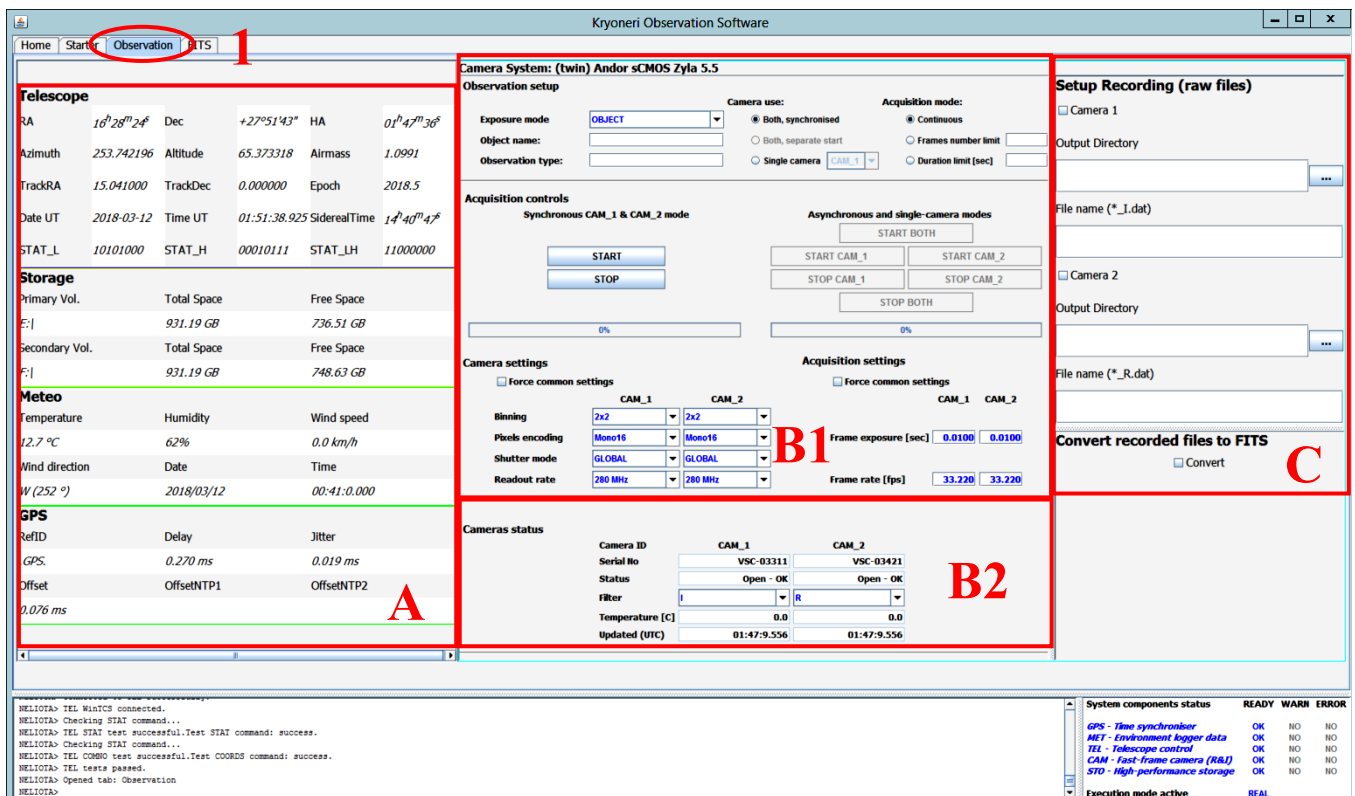
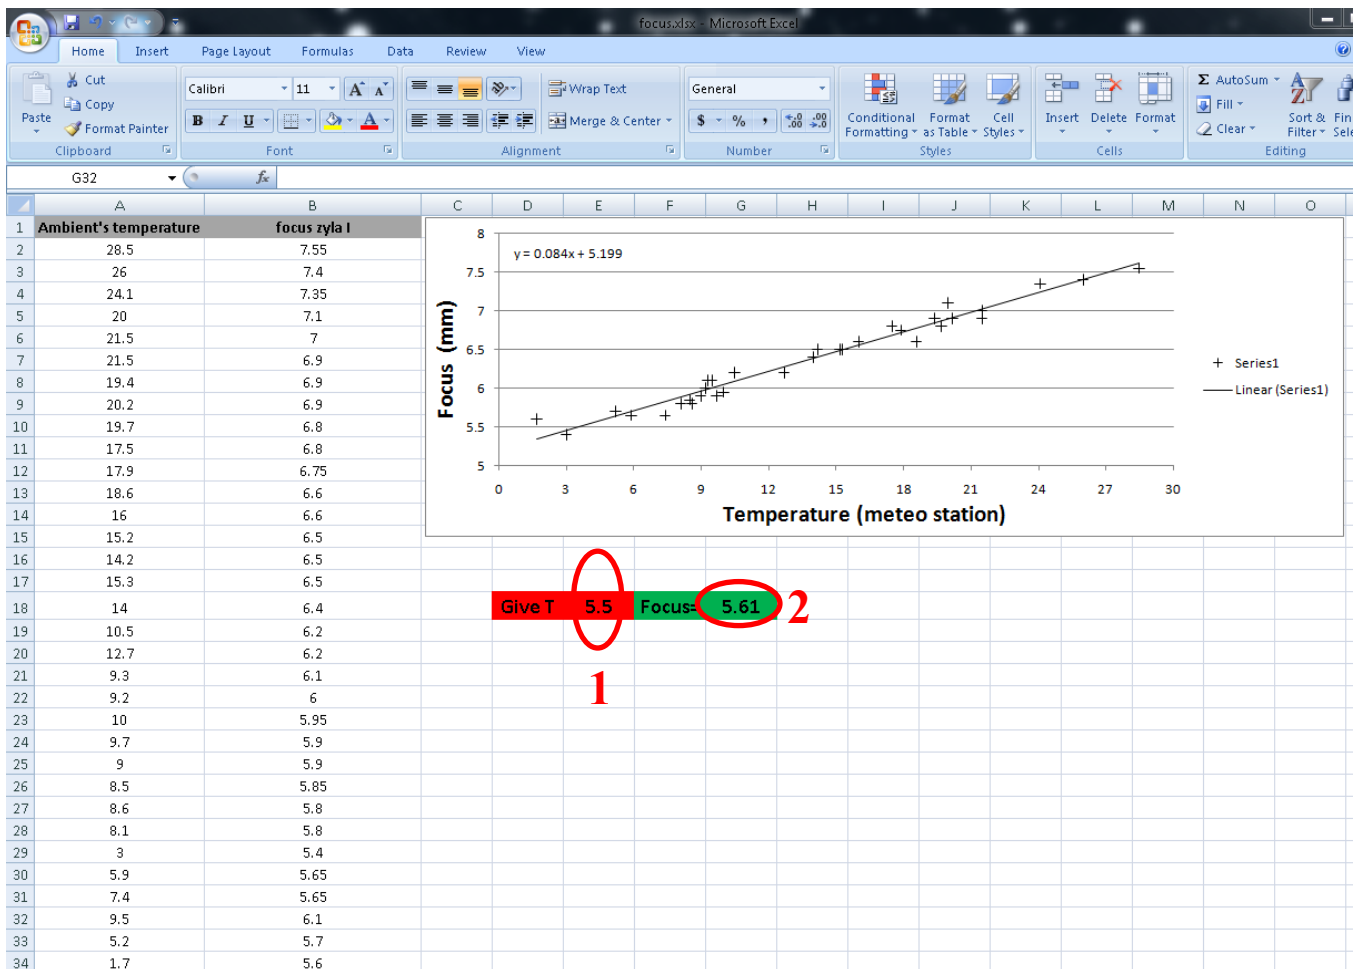

Fig. 6.11. The “Observation” menu of the software.
Fig. 6.13. The focus of Zyla CAM 1 (NIR cam)-ambient temperature empirical relation.
To begin the setup of observations, first click on the “Observation” tab of the software (Fig. 6.11 No 1). There are many options that can be set in this menu (e.g. which camera to operate, binning, shutter, read-out rate etc.) and they are presented in the following subsections.
This menu splits in three sections (Fig. 6.11 A-C):
To select specific camera(s) to operate and to set the respective settings follow the following steps that refer to the Camera system section of the software (Figs 6.11 B and 6.12):
2. Click on the sheet "Zyla" (Fig. 6.13).
3. Check the ambient temperature either in the Meteo status box of the software (Fig. 6.11 A) or in the meteo station's web page (section 1.2) and set it to the cell E18 (Fig. 6.13 No 1).
4. The Focus value that should be set is given in the cells G18 (Fig. 6.13 No 2).
10. At this time, check the ambient temperature either in the Meteo status box of the software (Fig. 6.11 A) or in the meteo station’s web page (section 1.2).
11. In the xlsx file (Fig. 6.13) add the new values for the temperature and focus and save changes^{9,10}.